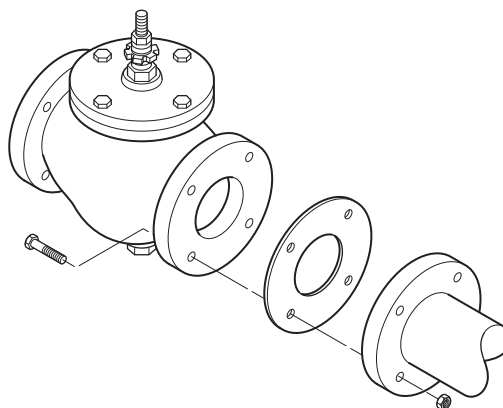
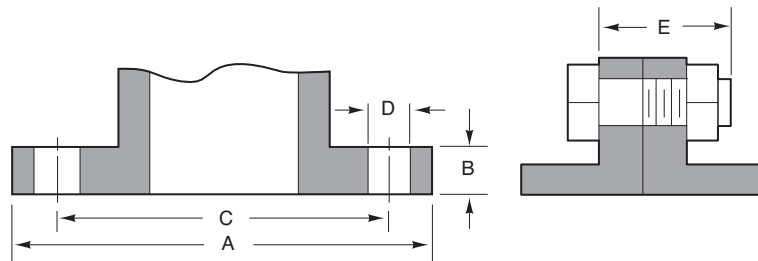

Figure-5 Installation of Flanged End Valves.
Figure-8 Flange Dimensions.
5. Figure-5 shows the proper way a flanged valve should be mounted. See Figure-8 for flange and flange bolt details.
**Table-10 Flange Detail for American Standard 125 lb. Cast Iron Pipe Flanges (Figure-8).**